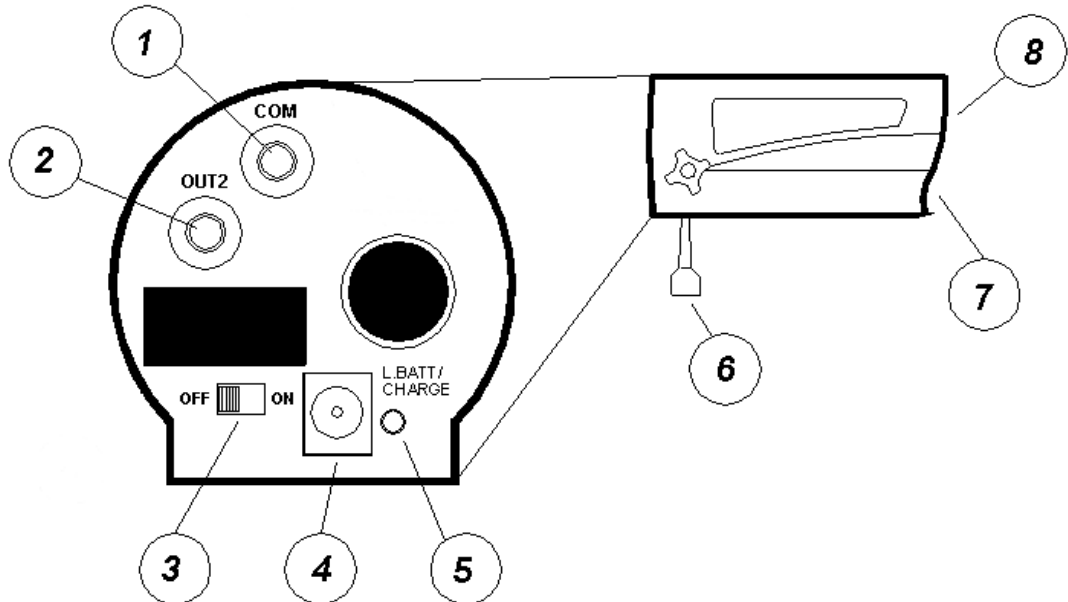

Figure 1
- recharge power source: power applied to recharge jack (see fig 1 n° 6). Voltage must be between 8V and 13V (we strongly advise you not to use voltages above 13V; for higher voltages a security mechanism - varistor – breaks the supply circuit. The circuit is restored when voltage has returned within the operative range).
If immediate battery recharge is required without first discharging the batteries, put the switch (Figure 1 n° 5) to ON for an instant and return rapidly to OFF. The recharge management program will not first discharge the batteries (steps 3 and 4)